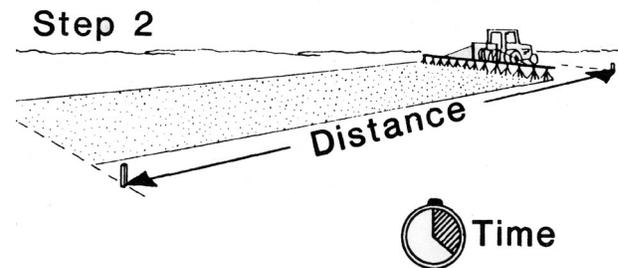

Figure 1. Measure the appropriate length for the nozzle spacing, then measure the time to run the course.
**STEP 2.** Drive and time the sprayer in seconds (Figure 1) at the throttle setting and load that normally occurs during spraying (spray tank should be 1/2 to 2/3 full) over the marked area. Engage the incorporation equipment (disk, planter, etc.) or other devices used while spraying. Do not change the gear or throttle setting after you have chosen a spraying speed. A change in ground speed will change the sprayer application rate and this will require recalibration.